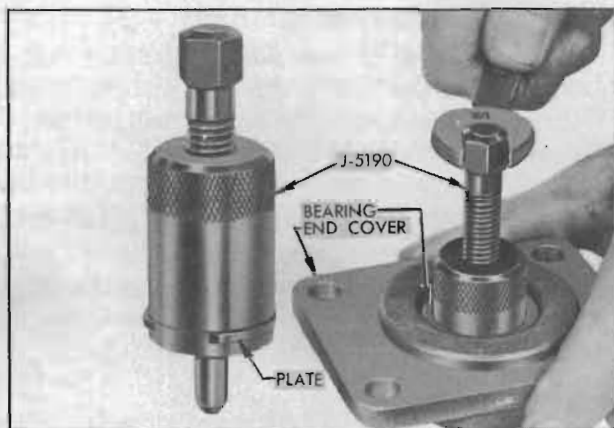

Figure 7-27—Removing Bearing from End Cover
8. If worm bearing in the housing end cover requires replacement, insert Remover J 5190 into bearing and turn the screw, which will expand two plates under the bearing and will then force the tool and bearing out. See figure 7-27.